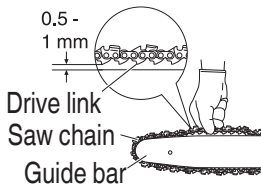

Fig. 15
6. Checking the saw chain tension (Fig. 15)